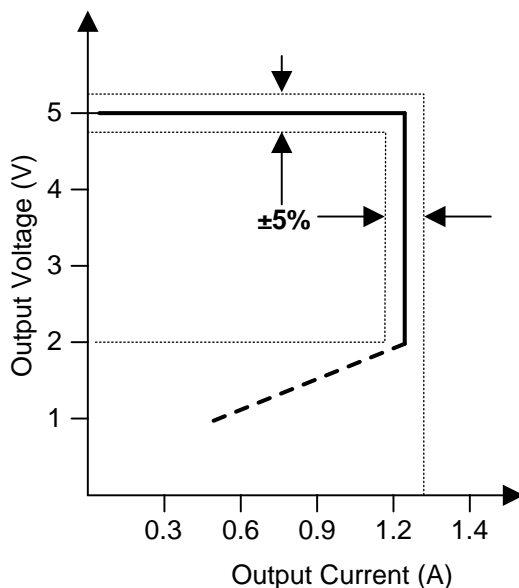

Figure 24. Target Output V-I Characteristic
UCC28910 and UCC28911 are HV switchers dedicated to an off-line power supply in an isolated flyback configuration. HV switcher means that each device integrates the power switch, a 700-V power FET, with the control logic. The two devices have the same control logic and they are different only for the Power FET  $R_{DS(on)}$  and for the operating current levels. The control logic controls both the output voltage and the output current without the need of an optical coupler. This control method is known as Primary-Side Regulation (PSR) and it operates by analyzing the voltage waveform on the auxiliary winding of the transformer. This allows significant cost saving with respect to traditional control scheme that uses an optical coupler for feedback from a secondary-side shunt regulator. The transformer auxiliary winding is also used to provide housekeeping supply power to the control logic. The device operates in Constant Voltage mode (CV) when it is controlling the output voltage. The device operates in Constant Current mode (CC) when the output current is controlled. The device operates in CV mode or in CC mode according to the load condition. (See Figure 24). A control algorithm that implements both modulation of the switching frequency and the amplitude modulation of the primary current peak, allows the power supply to operate efficiently over the entire load range. The high-voltage current source used for startup is kept off during normal operation thereby minimizing standby power consumption. The device also incorporates a smart power management to minimize its current consumption from the VDD pin. This power consumption is reduced when the converter is lightly loaded or unloaded allowing for a total input power of less than 30 mW when converter input voltage is 265 VAC and unloaded. A number of protection features inside the device allow for improved overall system reliability.